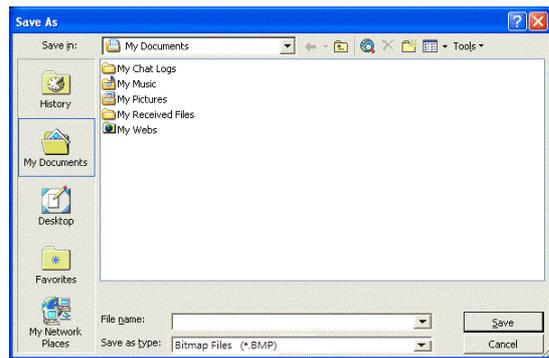

Figure 6-13D Saving BMP file dialog box
2) Click: **DAT->BMP** pop-up dialog box (see Figure 6-13D), input the BMP file name which should be saved and click OK to confirm the DAT to BMP file format.